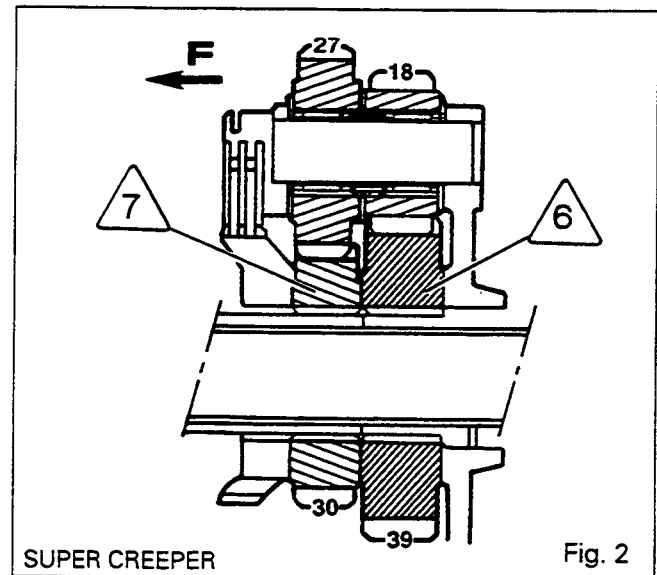

Fig. 2
- version with super creeper gears (Fig.2).